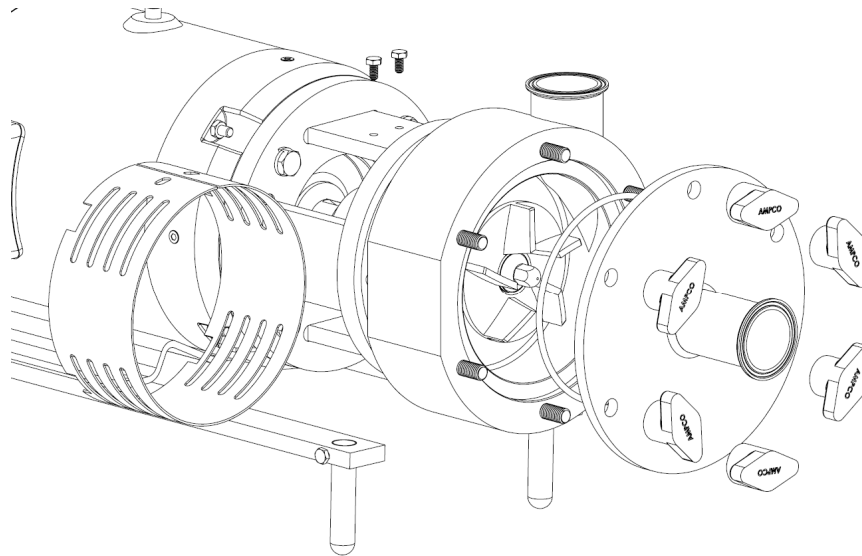

Figure 23
5. Replace the cover, cover gasket and cover nuts, as shown in figure 23. Once the cover nuts are tightened turn the stub shaft by hand for a few revolutions, making sure nothing is rubbing inside the mixer. Running the mixer with any foreign objects inside, or with the rotor making contact with either the cover or the housing will result in serious damage or complete destruction of the mixer. If the shaft turns freely and the rotor is not rubbing against any internal components, mount the shaft guard. The mixer is now ready to be reconnected to the piping system.